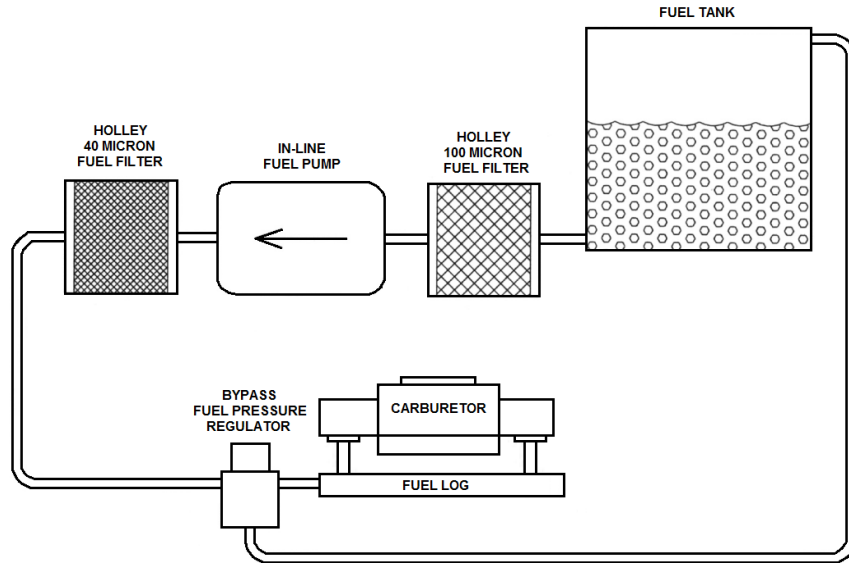
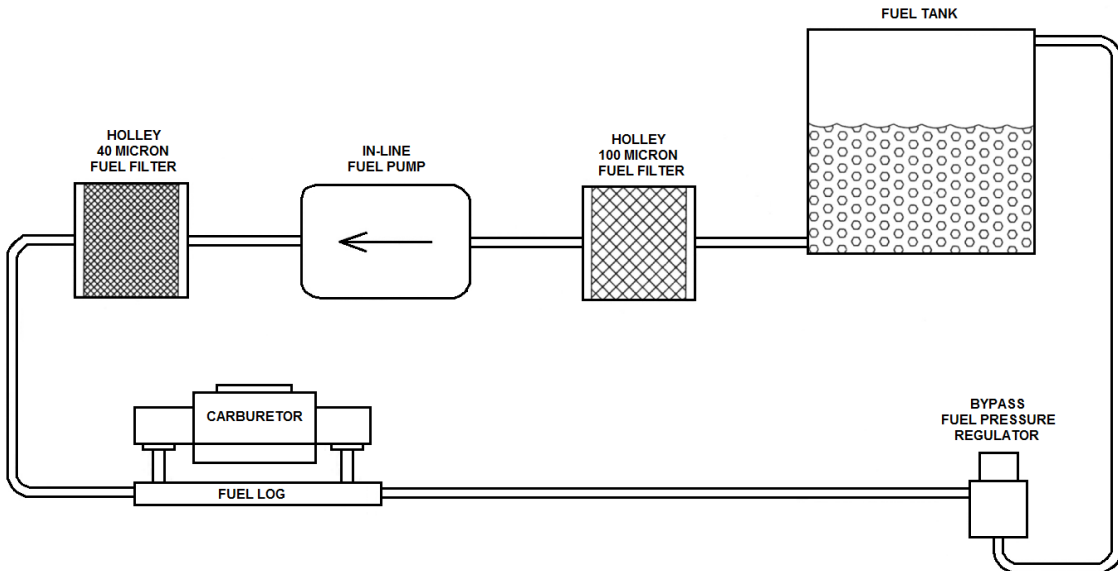
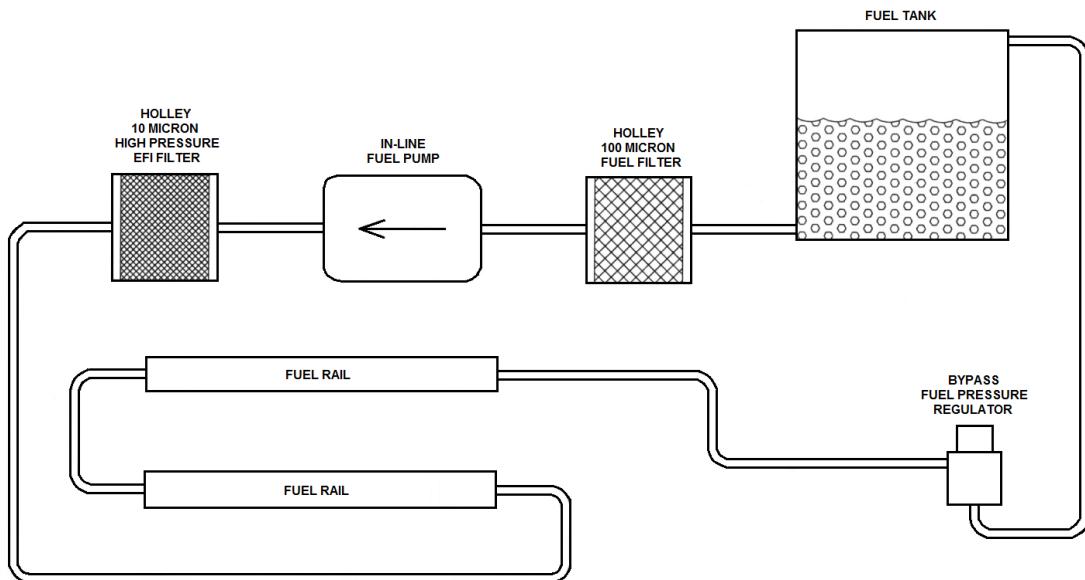

Figure 2a (Carburetor Only)
Figure 2b (Carburetor Only)
Figure 2c (EFI Only)
4. Connect the outlets of the regulator to the carburetor (if the regulator is installed before the carburetor **per Figure 2a**). If the regulator is installed after the carburetor (**Figure 2b**) or EFI (**Figure 2c**), the outlet needs to be plugged.
**WARNING!** ALWAYS USE A FUEL PRESSURE GAUGE BETWEEN THE REGULATOR AND THE CARBURETOR(S) WHEN ADJUSTING THE FUEL PRESSURE REGULATOR.